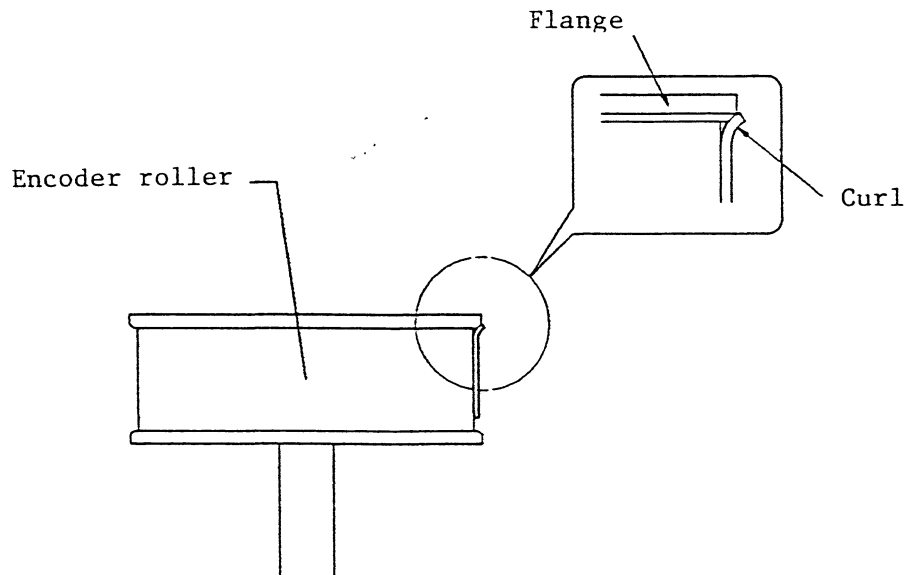

Fig.424 Check of tape winding (encoder roller)
- (ii) At the flange part of the encoder roller, there is no tape curl in both forward and reverse directions (Fig. 424).